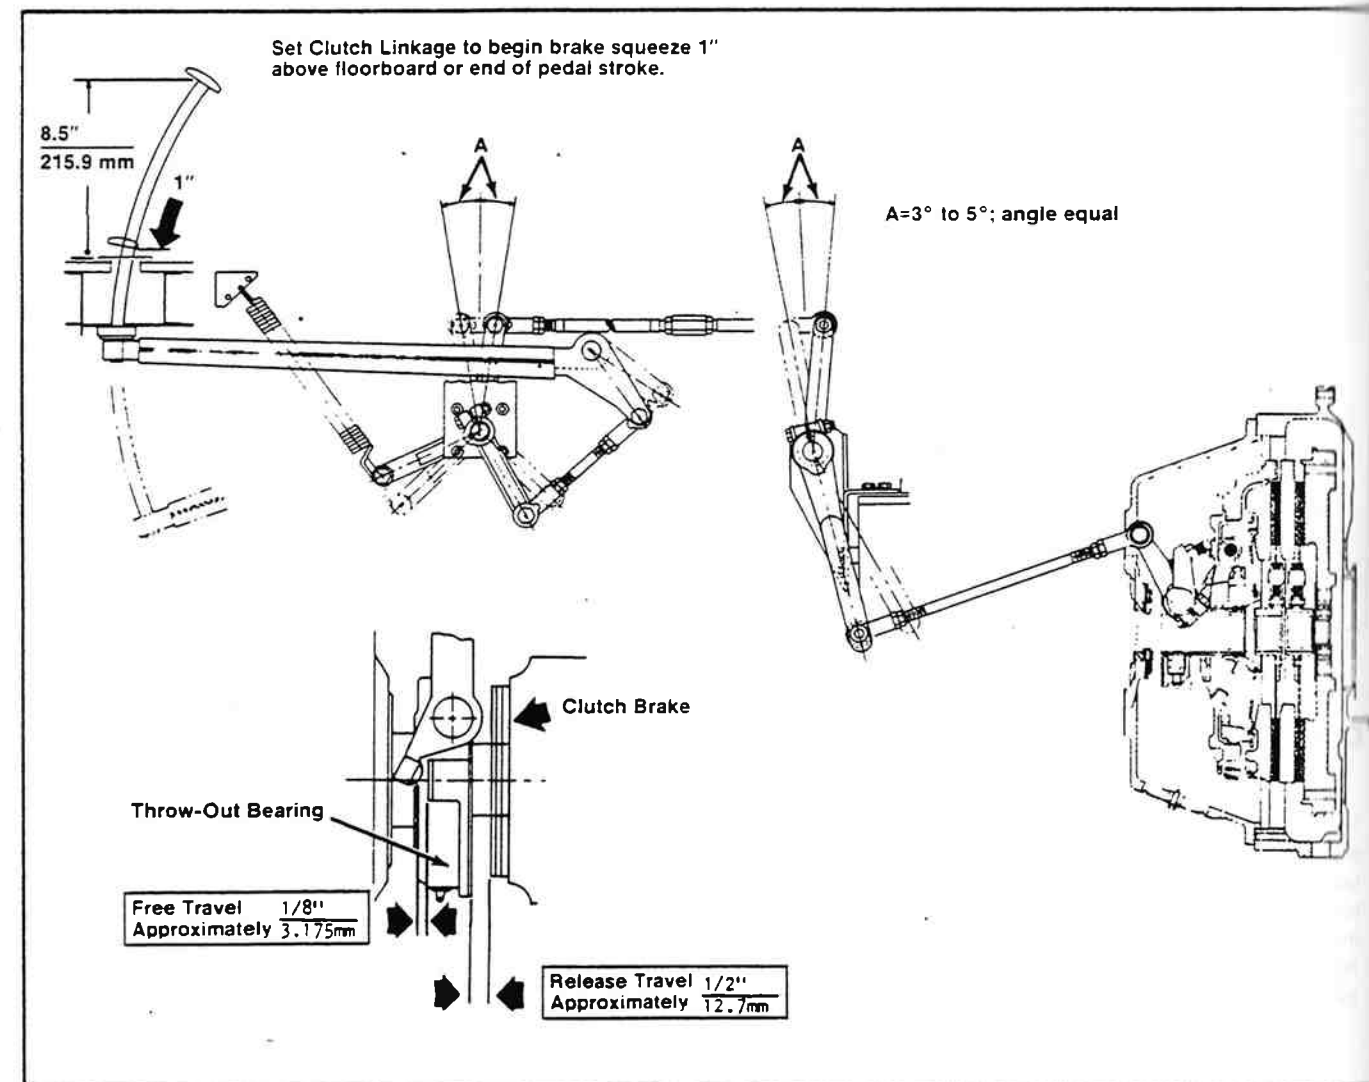

Figure 5-2. Clutch Linkage Adjustment - 5-Speed Manual Transmission.
1. Establish 8.5" (215.9 mm) height between clutch pedal and coach floor (figure 5-2).